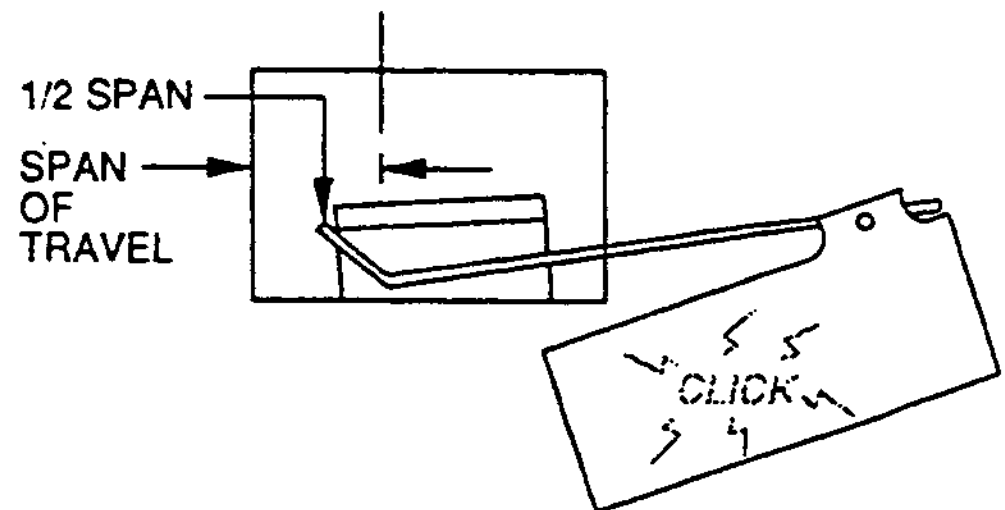

Fig. 4
- d. The torque switch (Fig. 4) should "click" open approximately half way through the span of travel.